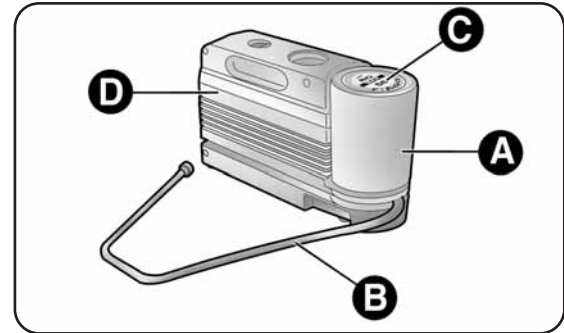

fig. 2
The kit fig. 2 includes:
- a compressor D-fig. 2 including a pressure gauge and connections, found in the compartment;